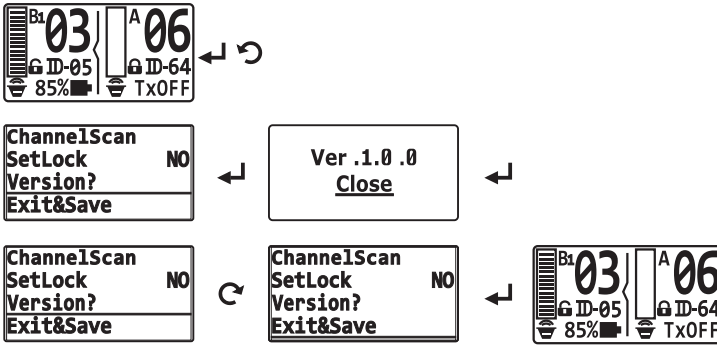

Fig. 29
10. Version? status, see Fig. 29: